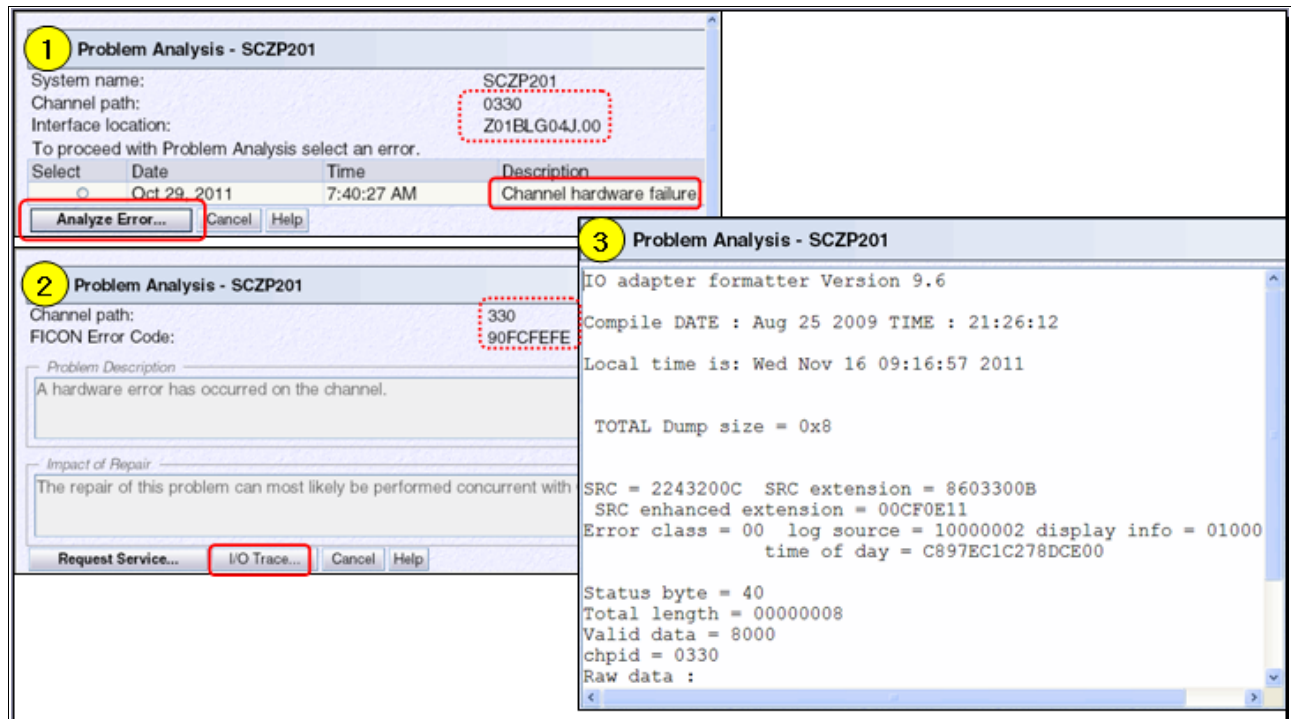

Figure E-28 Channel Hardware Failure panel
When you want to examine a Channel Hardware Failure, follow these steps to open the Channel Hardware Failure shown in the Figure E-28:
4. The Problem Analysis window gives an error code (for instance, 90FCFEFE), which is a description of the causes of the error and impact of repair. To see the trace taken at the time of the error, click **I/O Trace** or **More information** depending on the panel, as shown at Figure E-28.